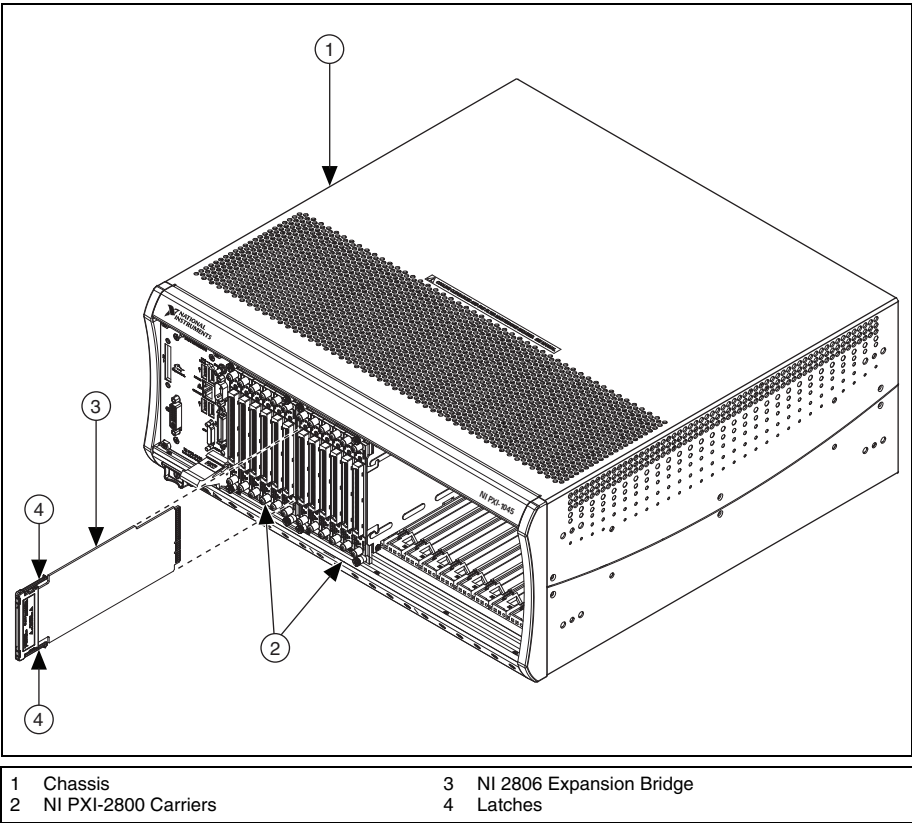

Figure 3. Inserting the NI 2806 Expansion Bridge
7. Refer to Figure 3 and insert the NI 2806 expansion bridge between the two carriers until the latches engage.